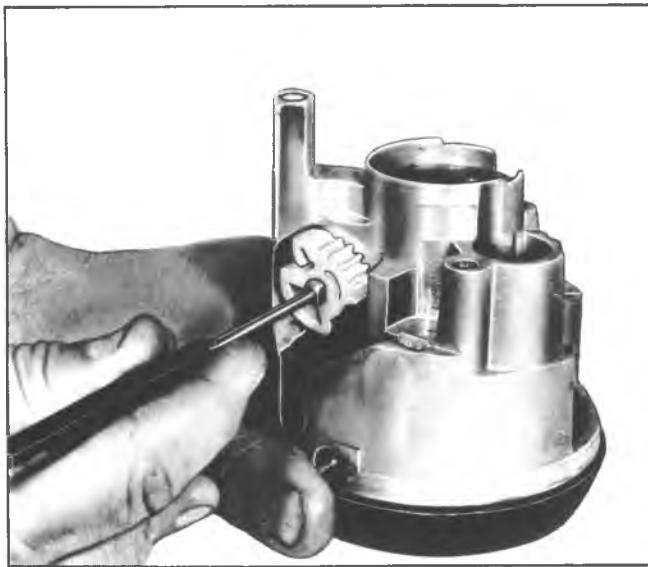

Fig. 78—Removing Sector Drive Shaft
- c. Remove the snap ring from the sector drive shaft. With a small punch, lightly tap the drive shaft from the sector (fig. 78). Remove the drive shaft, sector and lock bolt. Remove the rack and rack spring.